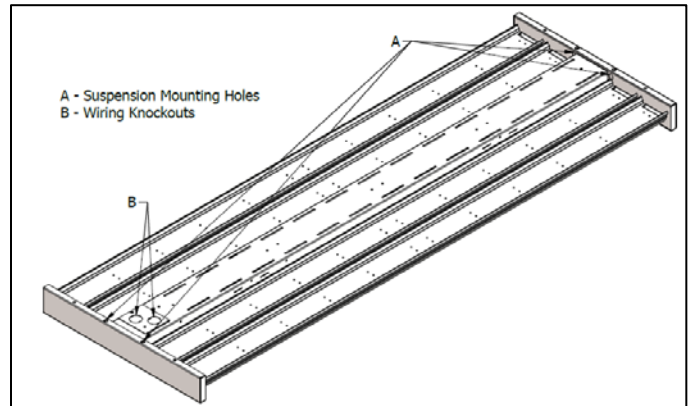

Figure 3
4. Attach the main luminaire body for suspension mounting using the holes shown by symbol A in Figure 3.